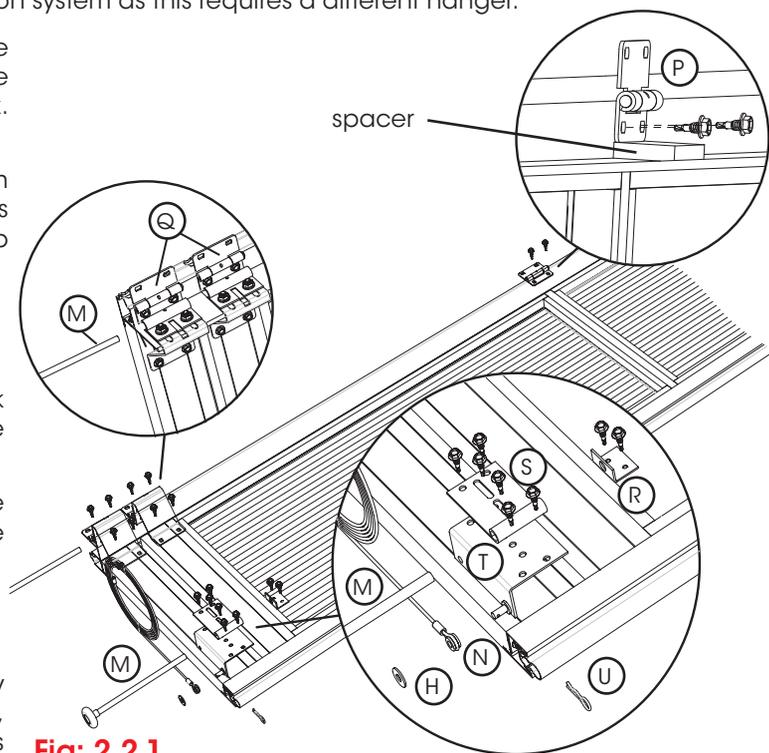

Fig: 2.2.1
- Place the axles plate hanger (S) onto the bottom hanger (T) and secure onto the bottom panel as shown in Fig 2.2.1 using tek screws. Ensure to line up the holes with the bottom panel bracket (R).
- Secure the bottom panel bracket (R) with 2 tek screws, then slide in wheel axle (M) through the axle plate hanger to the bottom panel bracket.
- Push the end of each lifting cable (N), onto the bottom hanger, followed by a washer (H) and secure with a snap pin (U) Fig 2.2.1.
- Attach a hinge (P) to the top of the panel at every door stile using a 10mm spacer to ensure alignment, with 2 tek screws (Fig 2.2.1). Then place 2 end hinges (Q) at either end of the panel and secure with tek screws as shown.
- Insert the top wheel axle (M) on both sides of the panel. NOTE: Once the panel is in place the hinged hangers (Q) can be adjusted if needed to ensure the panels are parallel to the opening.